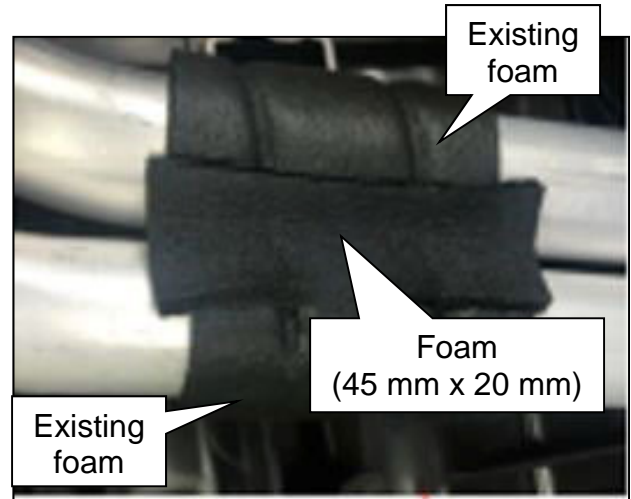

Figure 8
- Apply the foam, as shown in Figure 8, to insulate the heater core pipes from the heater core cover.